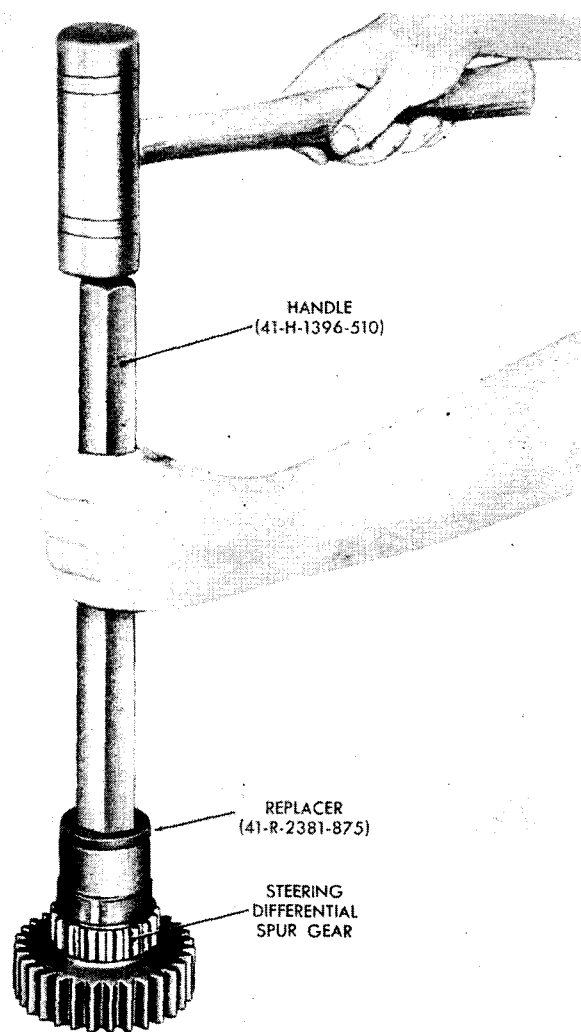
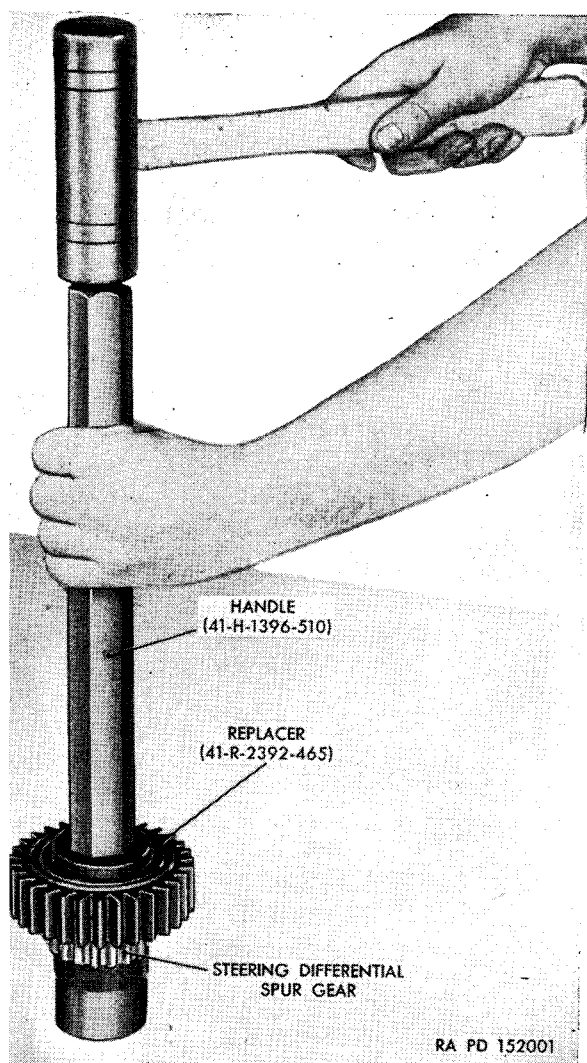

Figure 261. Installing spur-gear needle bearing.
Figure 262. Installing spur-gear ball bearing.
- (5) If needle bearing was removed, install a new needle bearing, numbered side out, using the replacer (41-R-2381-875) and handle (41-H-1396-510) (fig. 261). Install the ball bearing, numbered side out, in the spur gear using replacer (41-R-2392-465) and handle (41-H-1396-510) (fig. 262).
- (6) If it has not been necessary to replace a bevel pinion or spur gear and if the original shims which were removed from the gear assemblies are intact, assemble